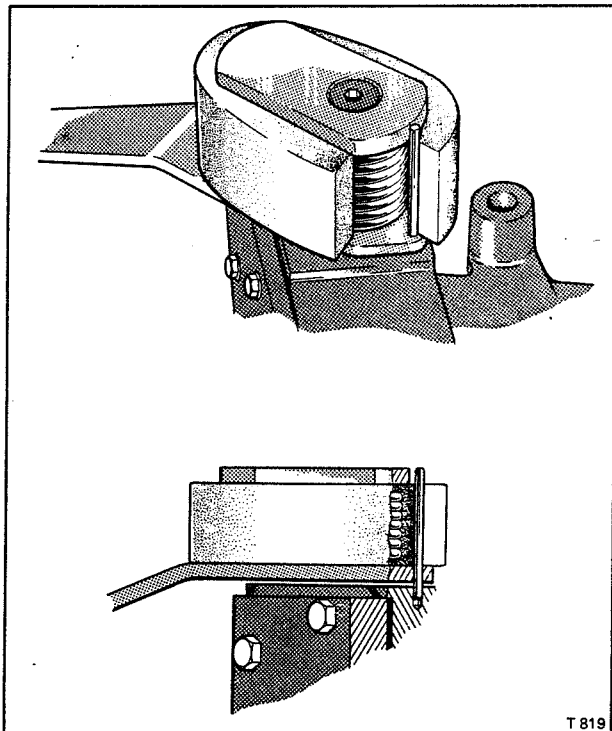

Fig. G24m Height control valve actuation arm location pin
2. Fit the operating arm location pin into position on the height control valve (see Fig. G24m).